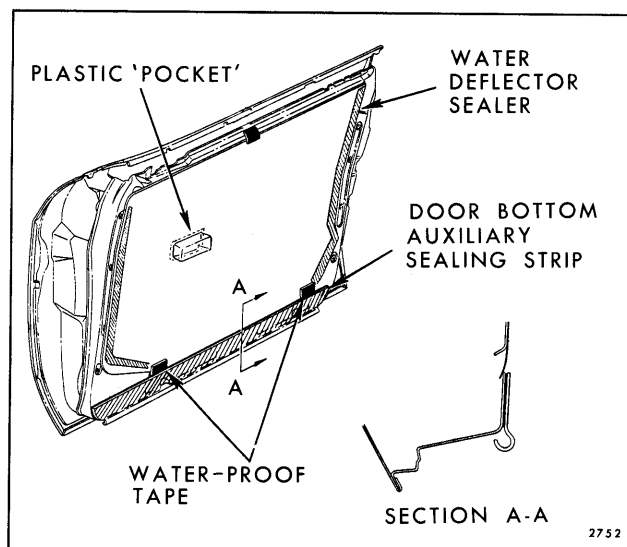

Fig. 6-6—Door Inner Panel Sealing
The door bottom auxiliary sealing strip is secured to the door inner panel with weatherstrip adhesive. The strip is installed after water deflector installation and prior to trim installation. As shown in section "A-A", Figure 6-6, the upper edge of the strip is aligned with the water deflector drain slot. The rolled, semi-bulbular section of the sealing strip extends down below the door trim pad when the trim is installed and fills the opening between the door and door sill plate.
4. When seal has been broken down both sides of deflector, carefully remove tape from inner panel at lower corners of water deflector (Fig. 6-6). Disengage water deflector from inner panel drain slot and remove deflector. On styles so equipped, it will be necessary to partially remove door bottom auxiliary sealing strip to permit removal of tape at bottom of deflector (Fig. 6-6).
2. If a new deflector is to be installed, use old deflector as a template. On styles where deflector has small individual plastic "pockets", transfer "pockets" from old to new deflector (Fig. 6-6). Use waterproof body tape or black weatherstrip adhesive to form a watertight seal completely around "pocket". Seal on opposite side from which "pocket" deflector protrudes (dotted line, Fig. 6-6).